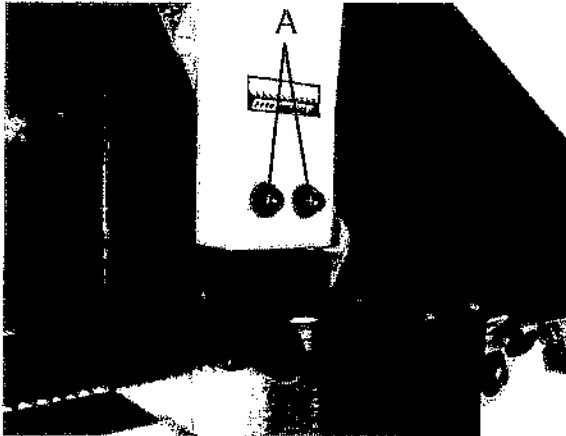

Fig. 15
2. Loosen two hex socket cap screws (A - Fig. 15)
4. Tighten two hex socket cap screws (A - Fig. 15).